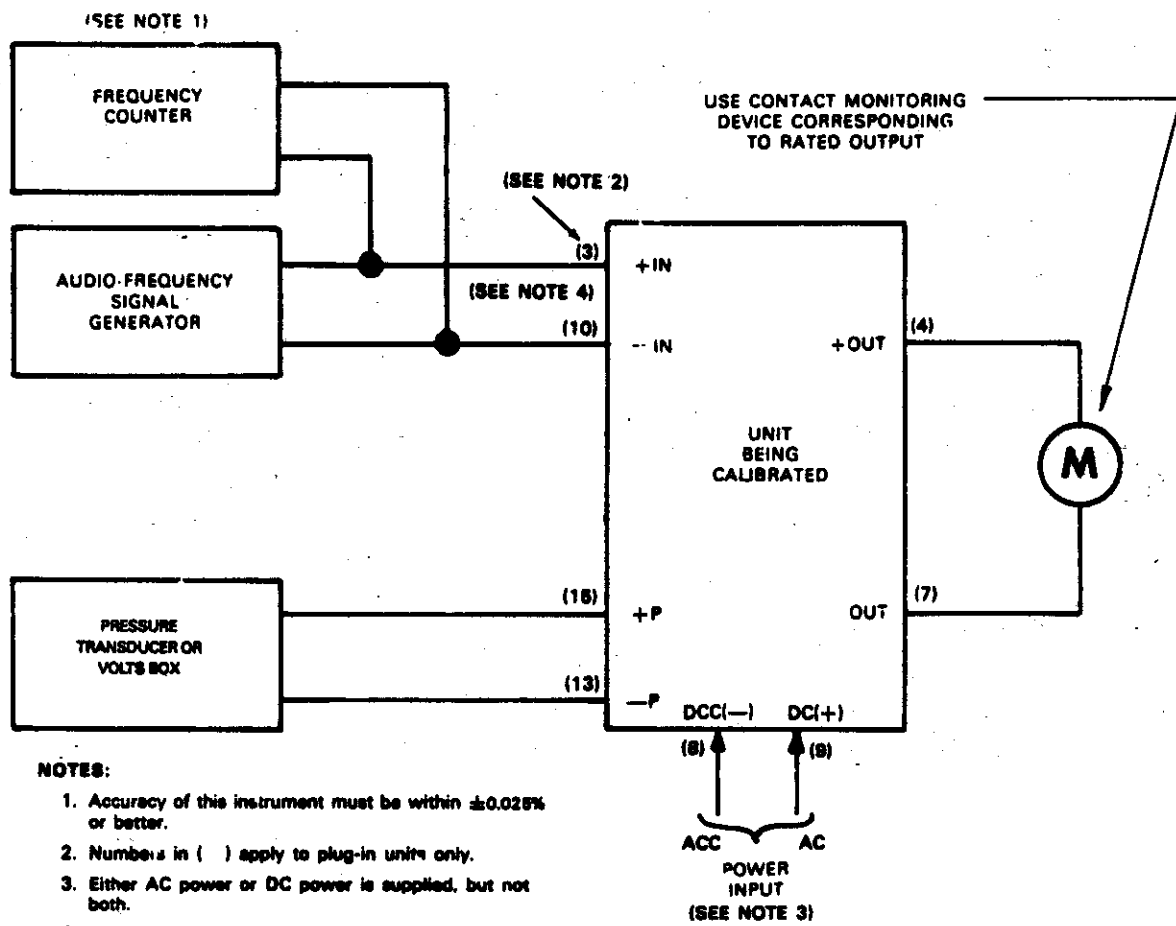

Figure 9. Test Equipment Setup for Calibration of Unit with PRC Option
- 1** Connect the unit and test equipment as shown in Figure 9, 10, or 11, as appropriate. If the PRC option is being used, note that the FDT transmitter accepts an additional input for a pressure compensating signal as shown in Figure 9. This 0-5 Vdc linear pressure signal must be provided by the user.